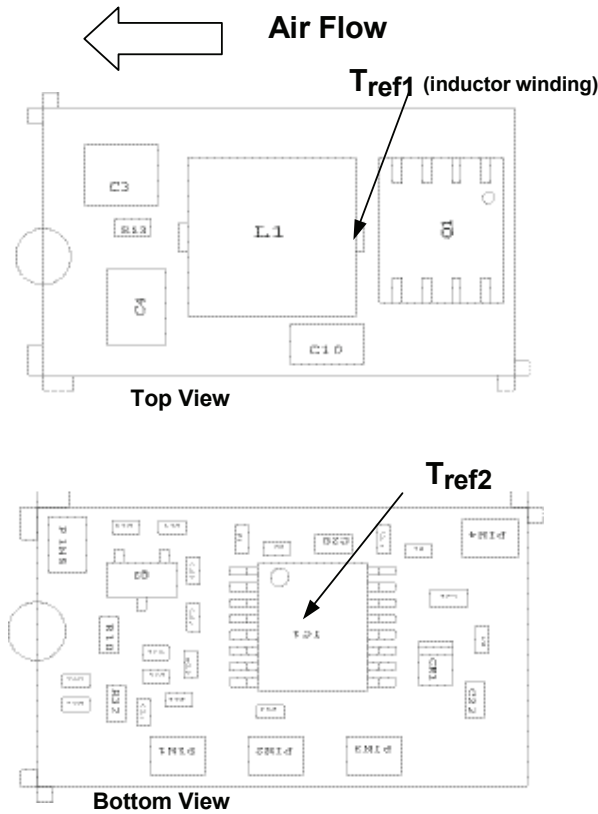
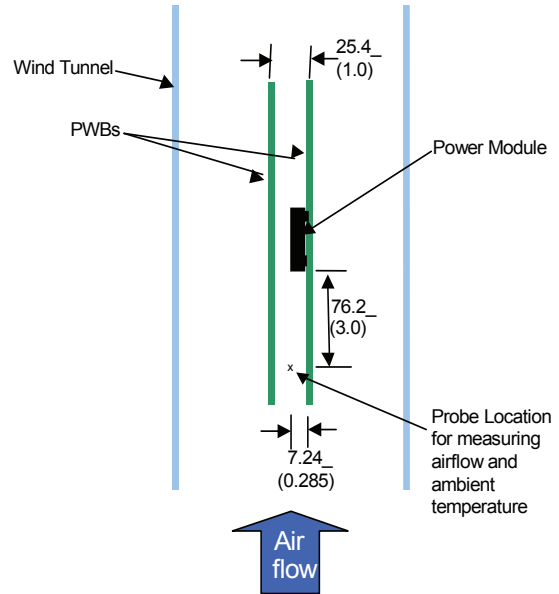

Figure 32.  $T_{ref}$  Temperature measurement location.
Figure 33. Thermal Test Set-up.
To provide over temperature protection in a fault condition, the unit relies upon the thermal protection feature of the controller IC. The unit will shutdown if the thermal reference point  $T_{ref2}$ , (see Figure 33) exceeds  $140^{\circ}C$  (typical), but the thermal shutdown is not intended as a guarantee that the unit will survive temperatures beyond its rating. The module will automatically restarts after it cools down.
Considerations include ambient temperature, airflow, module power dissipation, and the need for increased reliability. A reduction in the operating temperature of the module will result in an increase in reliability. The thermal data presented here is based on physical measurements taken in a wind tunnel. The test set-up is shown in Figure 33. Note that the airflow is parallel to the long axis of the module as shown in figure 32. The derating data applies to airflow in either direction of the module's long axis.
The thermal reference point,  $T_{ref1}$  used in the specifications of thermal derating curves is shown in Figure 32. For reliable operation this temperature should not exceed 125°C.